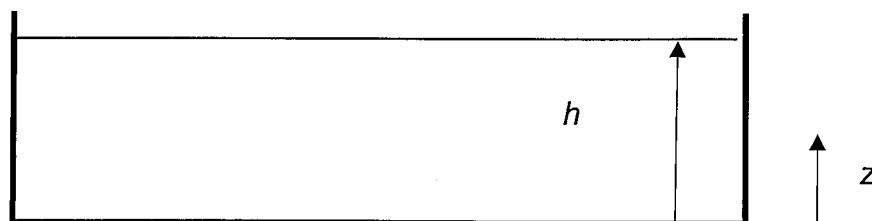

Figure Q1
1. Figure Q1 shows an open-topped tank filled to depth h with a salt-water solution of varying density. The solution is pure water of density ρ_w at the free surface, $z = h$, and is a saturated salt solution of density ρ_s at the bottom, $z = 0$. The density varies linearly with height. The walls of the tank are made of glass in order to view fluid motion in the tank.